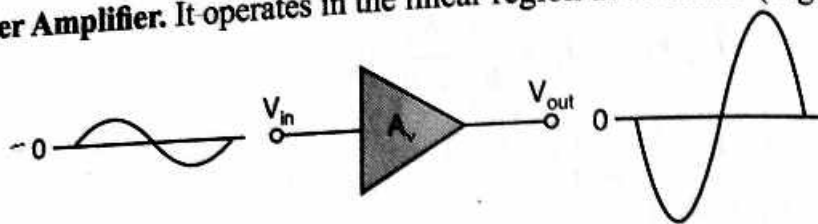

Fig. 36.10
**Class A Power Amplifier.** It operates in the linear region at all times (Fig. 36.10).